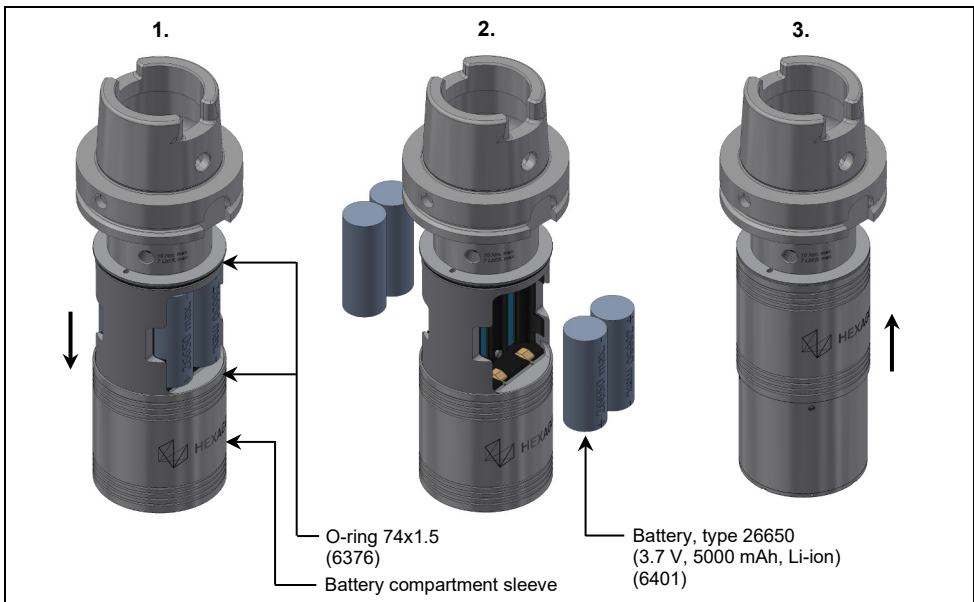

Fig. 8 Battery replacement
1. Carefully slide the battery compartment sleeve down (1./Fig. 8).
2. Take the used battery out of the battery compartment and insert a new battery (2./Fig. 8).
3. Carefully slide the battery compartment sleeve upwards as far as it will go (3./Fig. 8).